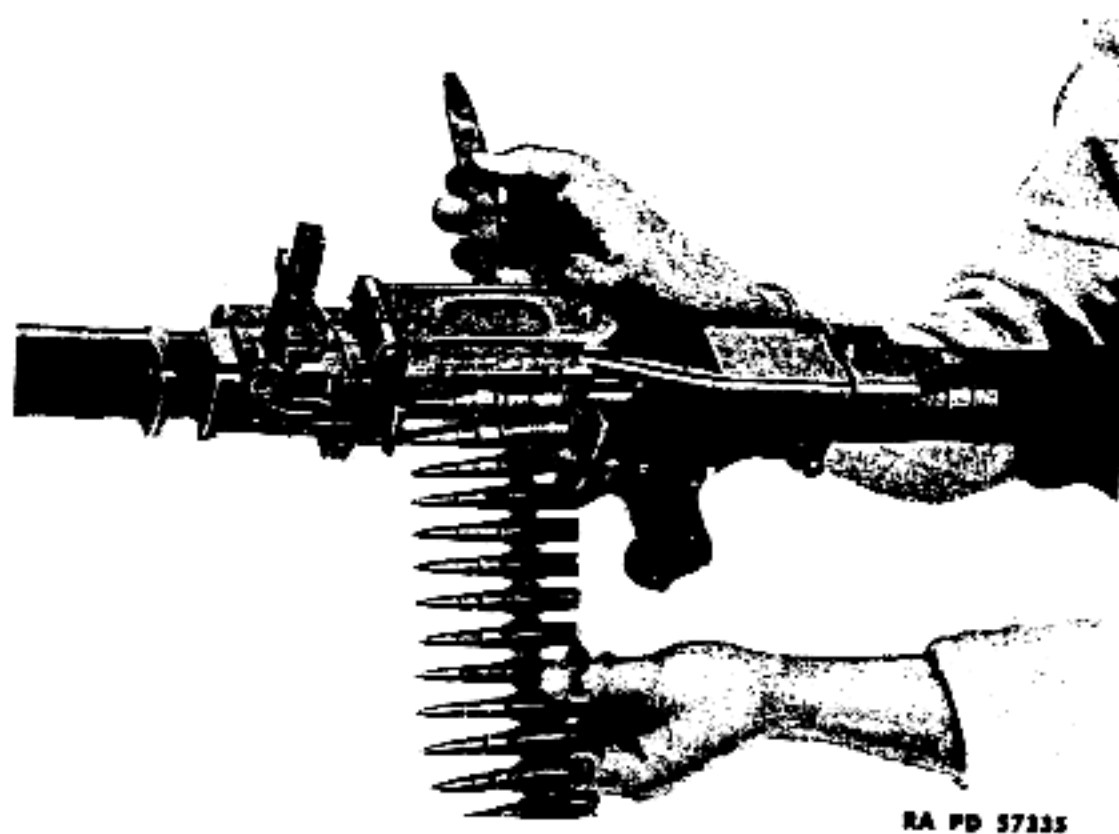

Figure 21 - Loading Machine Gun with Belt
(5) After the operator has become proficient in loading the gun, he may keep the feed cover closed while loading. In that case, make certain the bolt is fully home and the safety at FIRE (letter "F" uncovered). Then, insert the leading tab into the feed opening on the left side of the gun, and pull it to the right until the three pawls on the underside of the feed cover engage the first round (fig. 21).